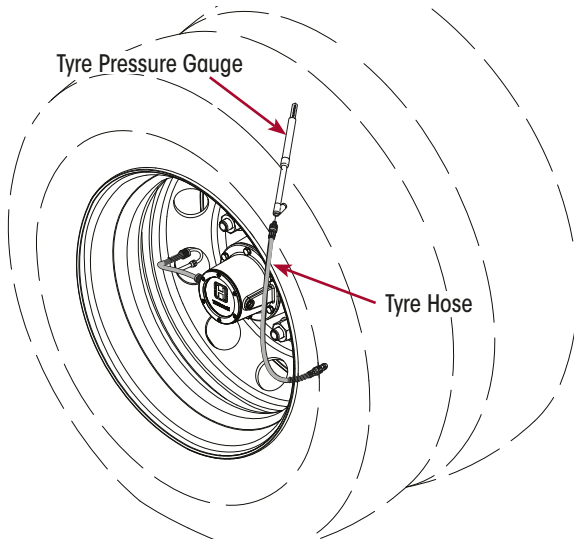

Figure 203: Manually Checking Tyre Pressure
3. Use a conventional gauge to measure tyre pressure at hose end. Refer Figure 203.